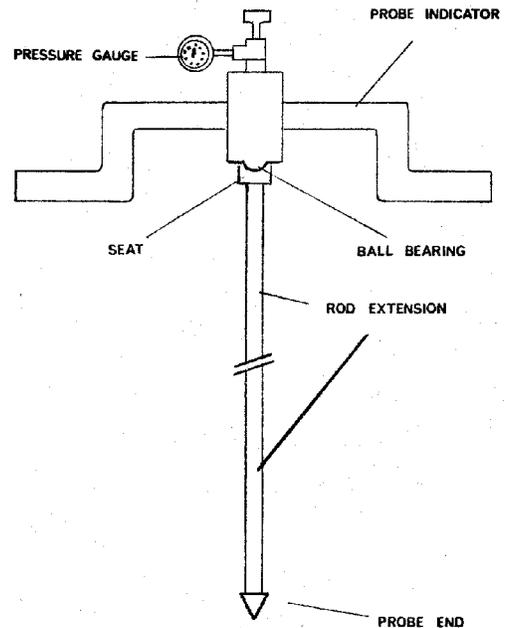

Figure 1
2. Position the probe indicator, as shown in Figure 1, on the seat so that the ball bearing fits into the recess.